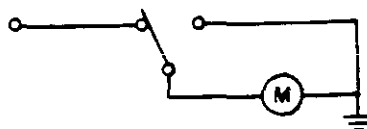

FIGURE 1G. Improper motor braking.
- d. Figure 1G. A very common example of poor practice is motor dynamic braking with form C contacts. Contacts may handle run current but often fail to interrupt inrush and cause a line to ground fault through the switch. It is improper circuit design to have line and ground on the stationary contacts.